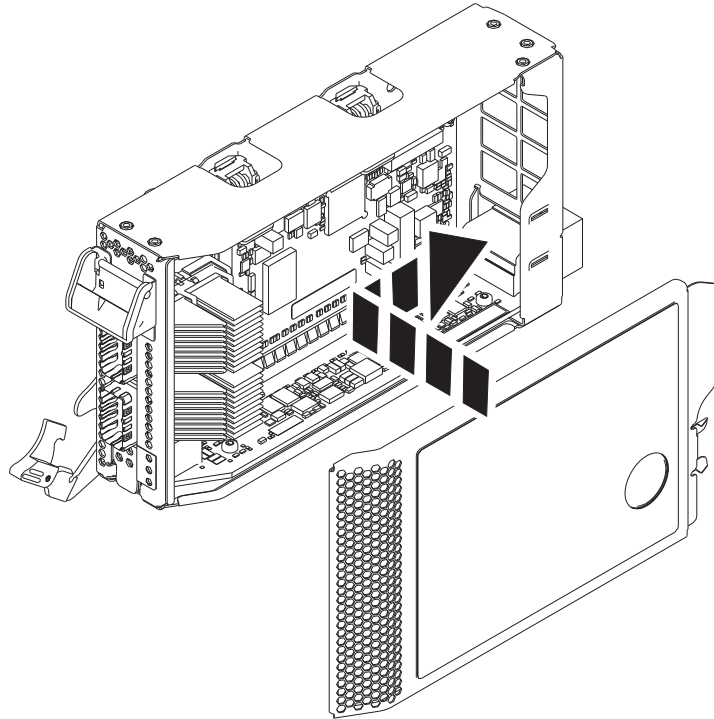

Figure 44. Replacing the PCIe adapter cassette cover
- a. Align and slide the cassette cover into position on the cassette as shown in Figure 44.